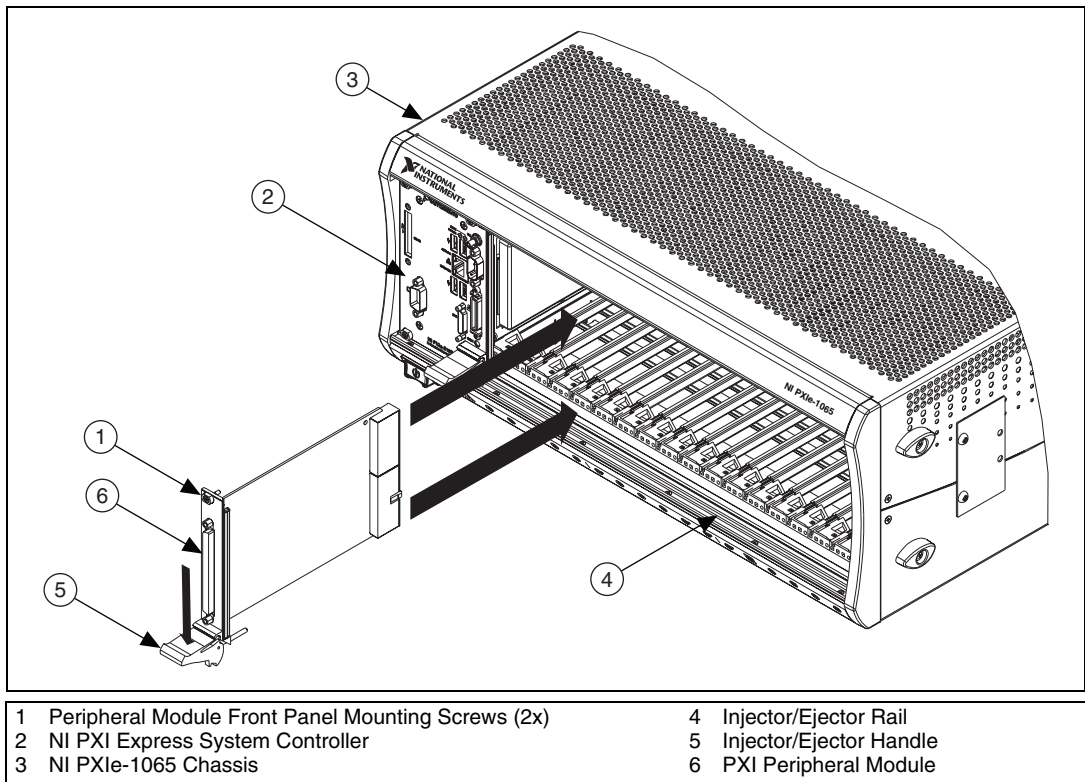

Figure 2-5. Installing PXI, PXI Express, or CompactPCI Peripheral Modules
3. Install a module into a chassis slot by first placing the module card PCB into the front of the card guides (top and bottom), as shown in Figure 2-5. Slide the module to the rear of the chassis, making sure that the injector/ejector handle is pushed down as shown in Figure 2-5.